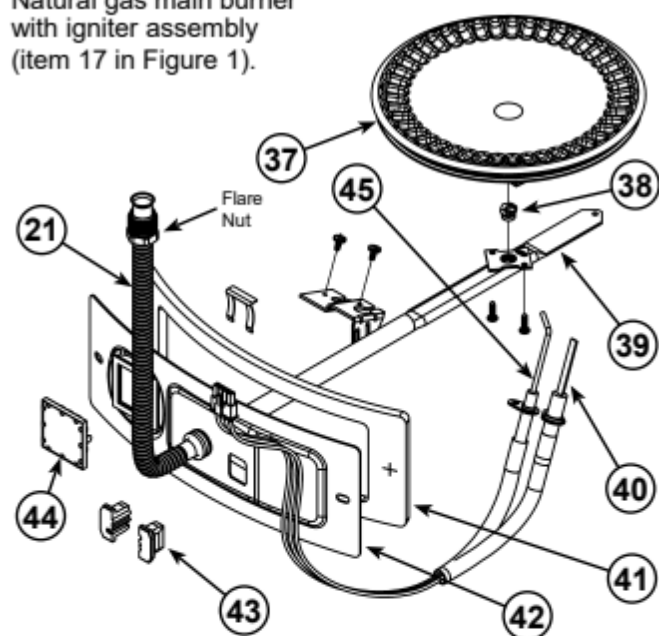
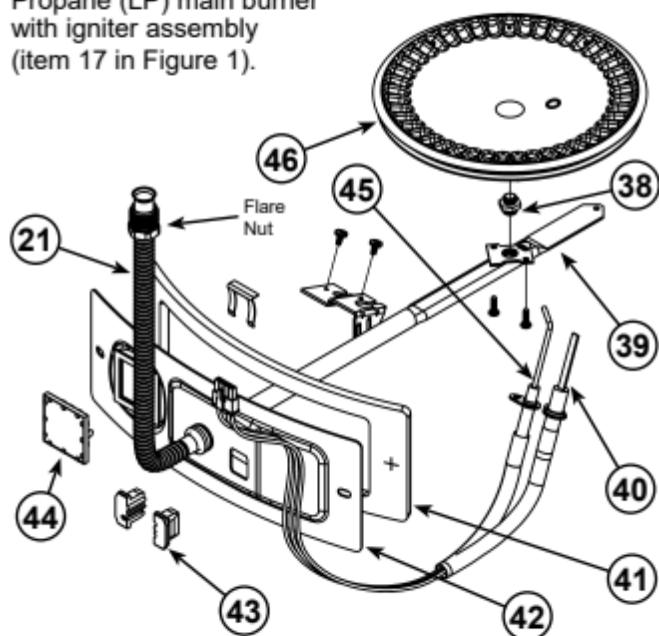
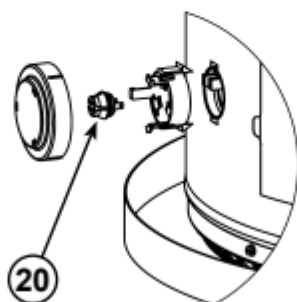
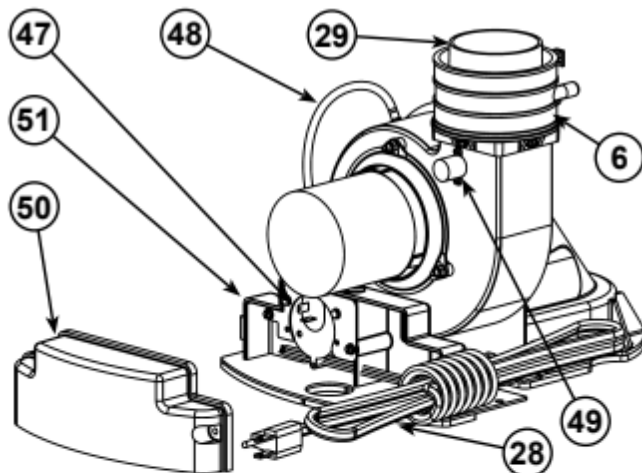

Figure 3.
Figure 4.
Figure 5.
Figure 6.
| 1 Vent Termination Elbow with Rodent Screen | 17 Manifold Door Assembly (behind outer door) (see Figure 3 (NG) or Figure 4 (LP)) | 36 *Thermal Expansion Tank (required for all closed systems) |
| 2 *Vent Pipe | 18 *Floor Drain | 37 Aluminum Burner (see Figure 3) |
| 3 *Vent Pipe Coupling (if required) | 19 *Metal Drain Pan | 38 Gas Orifice (see Figure 3) |
| 4 CPVC Vent Pipe (5 ft. supplied) | 20 Flammable Vapor Sensor (under cover) (see Figure 5) | 39 Gas Manifold (see Figure 3) |
| 5 *CPVC Vent Pipe Elbow (long radius) | 21 Flexible Manifold Tube (see Figure 3) | 40 Hot-Surface Igniter (see Figure 3) |
| 6 Gear Clamp (see Figure 6) | 22 *Sediment Trap | 41 Manifold Door Gasket (see Figure 3) |
| 7 T&P Valve | 23 *Ground Joint Union (gas connection) | 42 Manifold Door (see Figure 3) |
| 8 **Combo Heating System Supply Outlet (Optional) | 24 *Main Manual Gas Shut-off Valve | 43 Two Piece Grommet With Clip (see Figure 3) |
| 9 Cold-Water Inlet Nipple/Diptube | 25 *Gas Supply* | 44 Viewport (see Figure 3) |
| 10 *Discharge Pipe | 26 Baffle Assembly | 45 Flame Sensor Rod (see Figure 3) |
| 11 Gas Control Valve/Thermostat (Honeywell) | 27 Rating Plate | 46 Stainless Steel Burner (see Figure 4) |
| 12 Gas Valve Electronic Control Module And Cover (Honeywell) | 28 Blower with Power Cord (see Figure 6) | 47 Air Switch (inside box) (see Figure 6) |
| 13 **Combo Heating System Return Inlet (Optional) | 29 *Rubber Coupling (see Figure 6) | 48 Air Tubing (see Figure 6) |
| 14 ***Control Harness | 30 *Inlet Water Shut-off Valve | 49 Blower High Limit Switch (see Figure 6) |
| 15 Drain Valve | 31 *Union (water connection) | 50 Junction Box Cover (see Figure 6) |
| 16 Outer Gas Door | 32 Hot-Water Outlet Nipple | 51 Junction Box (see Figure 6) |
This device is located on the blower (see Figure 6, item 49) and limits the maximum temperature of the blower. If the blower temperature rises above the temperature setting, the switch opens causing the heater to shut down. The switch will auto reset once the temperature drops sufficiently.
This device, located in the junction box, monitors the air pressure produced by the blower. In the event that the exhaust venting becomes blocked or sufficiently restricted, the switch will shut the heater down (see Figure 6, item 47). If the water heater has not gone into a soft lockout condition, the heater will restart after the blockage is removed (see "Resetting The Heater Control").